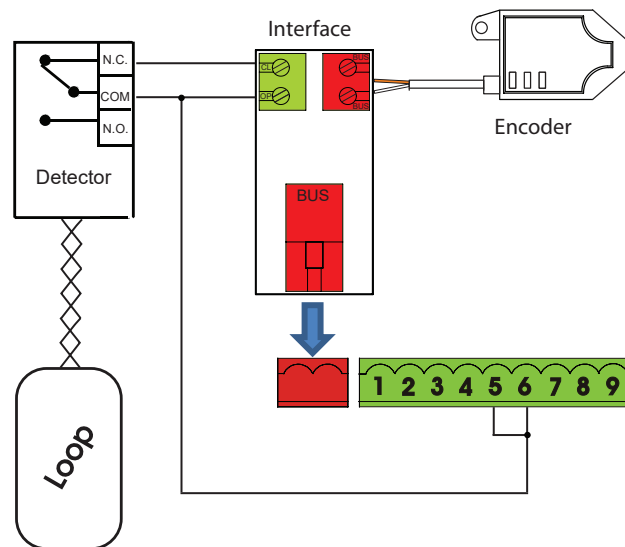

Fig. A11
7. Refer to Fig. A11 for the wiring schematic